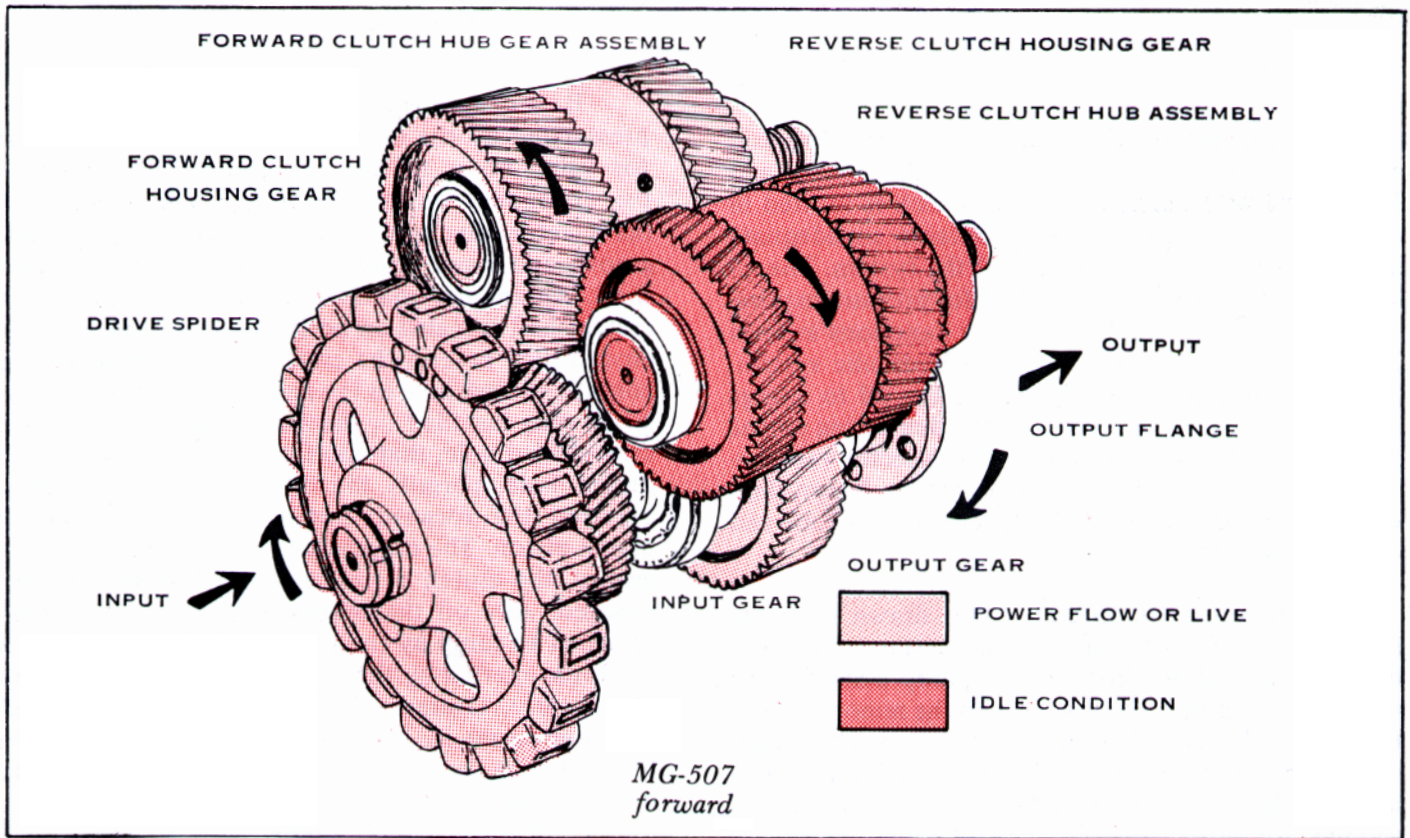

Figure 5. Model MG-507 Marine Transmission Power Flow - Forward - Schematic View.
B. Forward (fig. 5). When forward speed is selected, all the marine transmission parts which were turning during neutral selection are still turning. However, when forward is selected, the forward clutch faced and metal plates are clamped together by the clutch piston and back plate. The internal teeth of the steel clutch plates are meshed with the smaller diameter external teeth of the clutch hub pinion assembly and turn the pinion gear at given ratio of engine speed and in anti-engine direction. The larger external gear teeth of the pinion gear are in constant mesh with the output gear which is press taper assembled on the output shaft. The output flange is spline-connected to the output shaft and, therefore, the flange rotates in engine direction when in forward. The output shaft and flange rotate at a speed that is reduced from the engine speed due to the overall ratio between the input gear and the output gear.